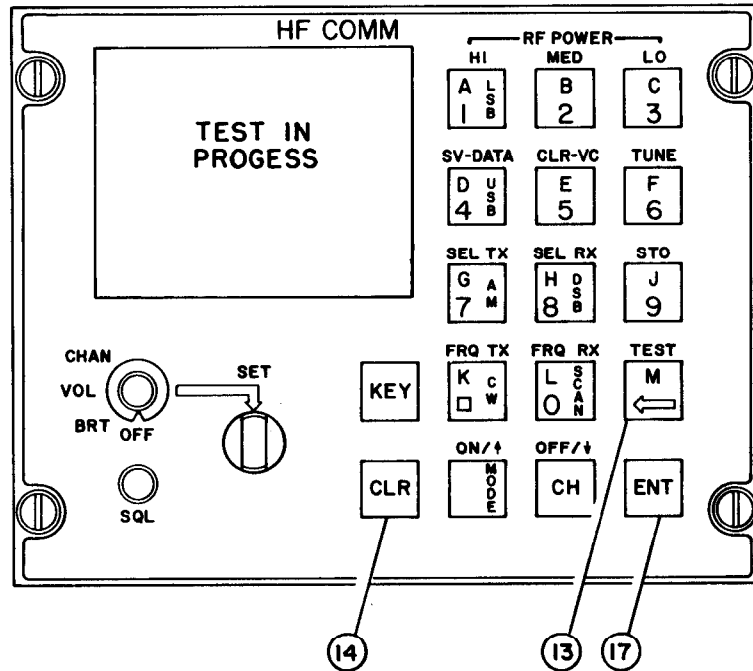

Figure 2-16. Test Mode Function, Controls
1. **Test mode.** Refer to figure 2-16. Press TEST pushbutton (13), followed by ENT pushbutton (17). The CRT screen displays a checkerboard pattern for a few seconds. Then it shows an inverse checkerboard pattern to test the individual character spaces on the CRT. When this part of the test is completed, the words TEST IN PROGRESS are displayed on the CRT. To stop BIT before testing is completed, any pushbutton may be pressed. For consistency, it is recommended that the CLR pushbutton (14) be used to stop the testing.